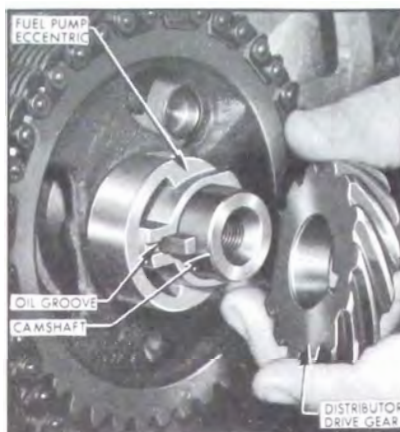

Figure 2-38—Fuel Pump Eccentric and Distributor Drive Gear Installation
5. Slide fuel pump eccentric on camshaft and Woodruff key with oil groove forward. See Figure 2-38.
6. Install distributor drive gear. See Figure 2-38.